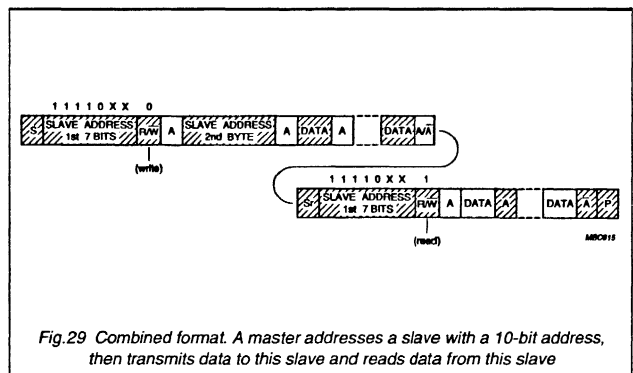

Fig.29 Combined format. A master addresses a slave with a 10-bit address, then transmits data to this slave and reads data from this slave
- **Combined format. A master transmits data to a slave and then reads data from the same slave (Fig.29).** The same master occupies the bus all the time. The transfer direction is changed after the second R/W bit